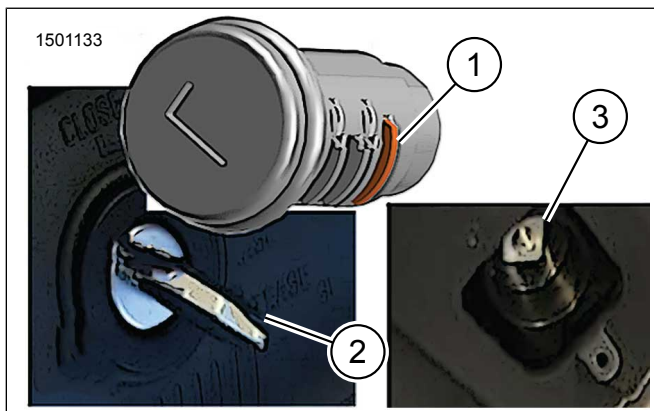
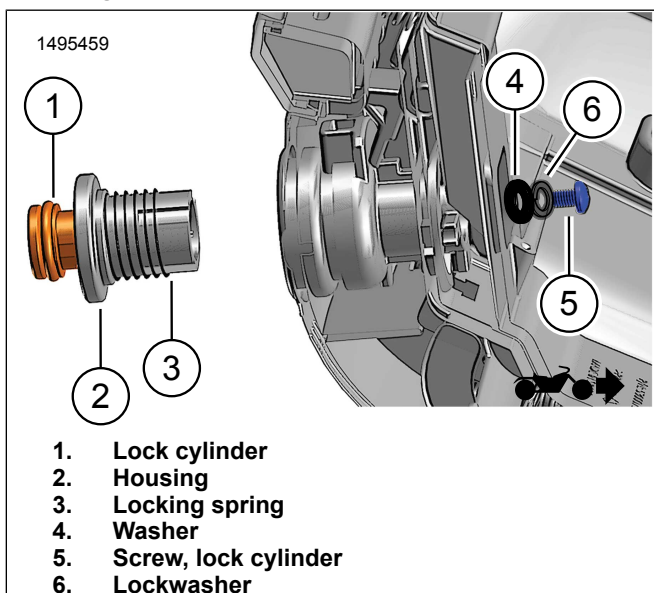

Figure 8. Release Tumbler - Release Position
Figure 9. Install Lockset to Top Case
- See Figure 8. Position rotor, set to release position.
- See Figure 9. Install housing (2) and locking spring (3) on lock cylinder (1).
- See Figure 8. Install lockset.
- Align retention tumbler slot (1) to release position (2).
- Square boss on lockset must mate with square opening on rotor (3).
- See Figure 9. Install washer (4), lockwasher (6) and screw (5). Hand tighten.